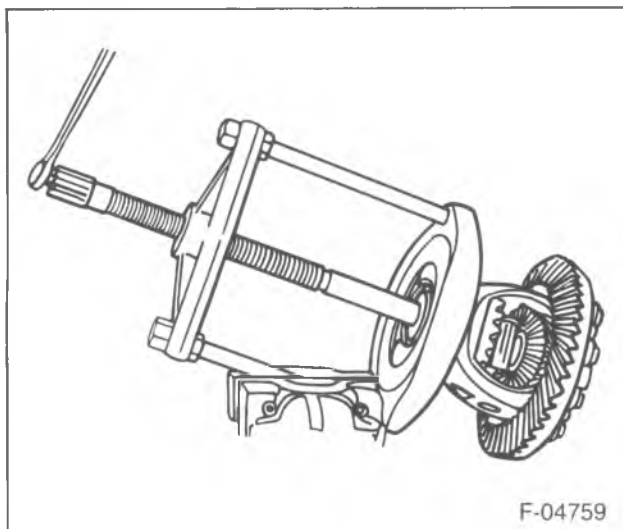
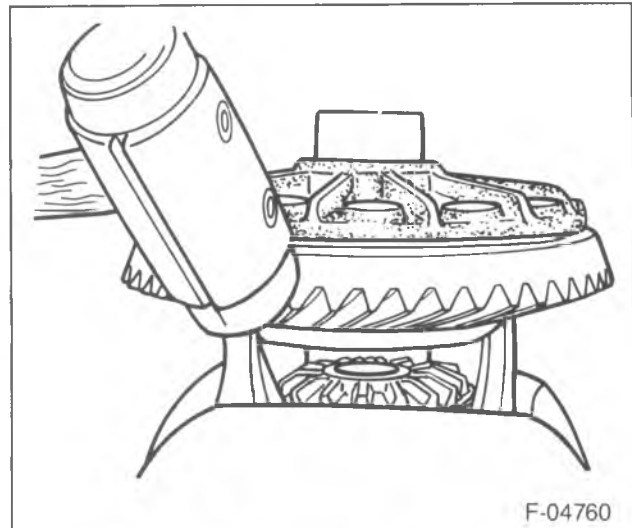

Figure 47—Removing the Differential Side Bearings
Figure 48—Removing the Ring Gear
7. Bearing cups (20).
8. Differential side bearings (20) using J 29721, J 29721-70, and J 8107-3 (figure 47).
9. Differential shims (21).
10. Ring gear bolts (23).
- Place shop towels over the vise jaws. Put the differential case in the vise (figure 48).
11. Ring gear (2) from the differential case using a rawhide hammer.
- Ring gear (2) from the vise.